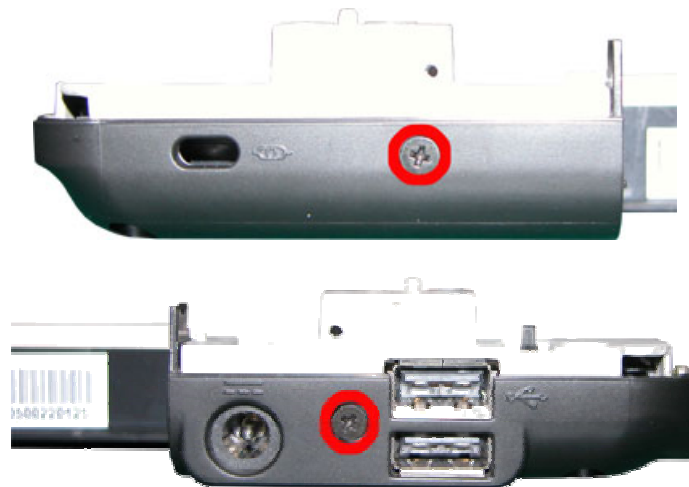

Fig. 30 Rear view of Base unit
2. Release two screws at rear of the base unit as shown in Fig. 30